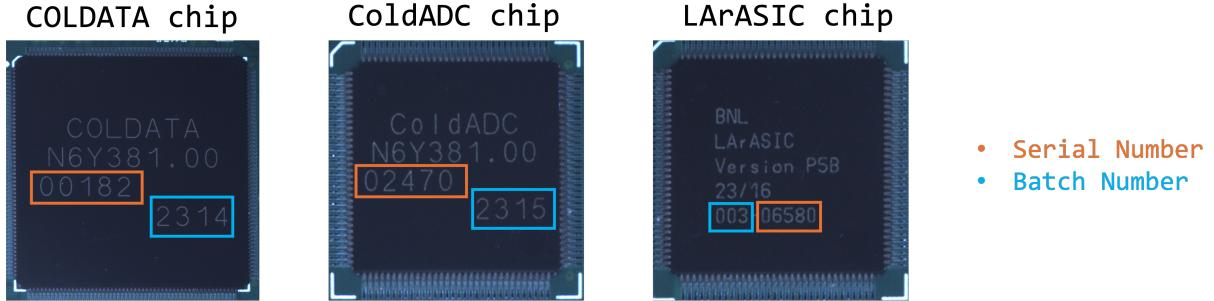
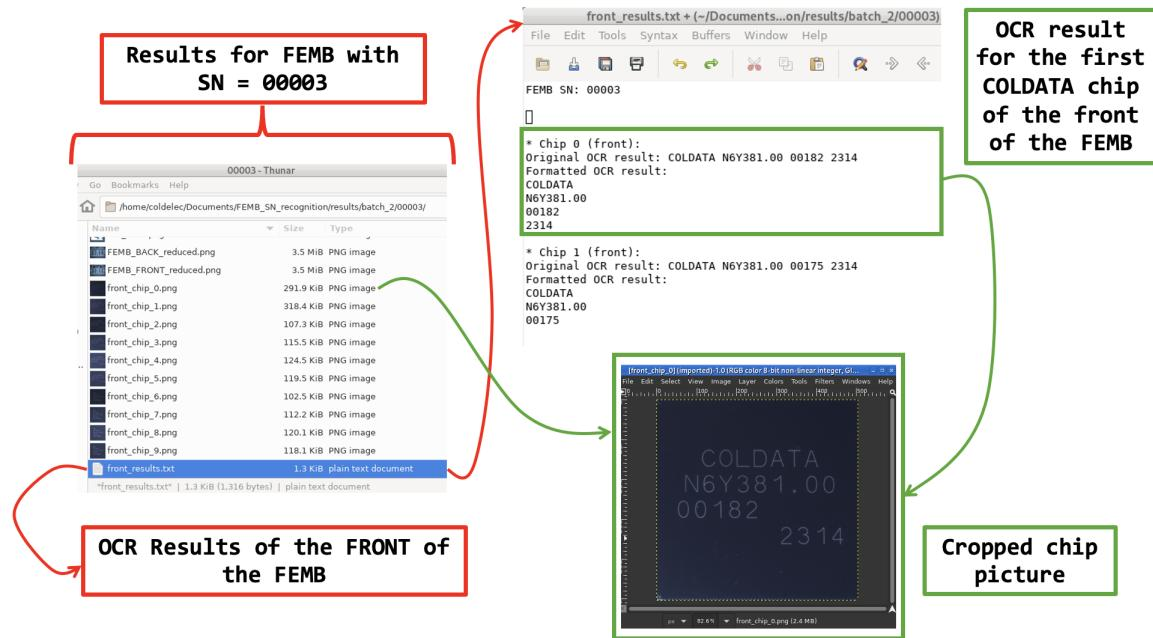

Figure 15: Serial numbers and batch numbers on individual chips. These are the most critical elements to be read by our application.
Figure 17: Running a quick visual inspection of the OCR result for Chip 0, front.
1. **What are we looking for?** Figure 15 shows the most critical parts of the text on each chip. These elements **must** be correctly recognized by the OCR tool and **cannot** be wrong. The primary goal of the visual inspection is to verify that the extracted text matches exactly with what appears on the chips.
Figure 17 shows an example of `front_results.txt` for an FEMB with serial number 00003. Your task is to open each chip image and compare its text with the corresponding OCR result in the `.txt` file. Ensure that both the batch number and serial number (Figure 15) are correctly recognized.